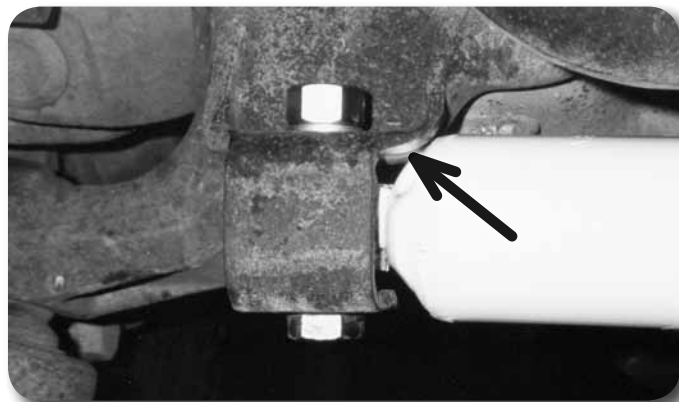

Figure 2
6. Mount the base of the cylinder in the OE bracket at the axle. Check for any contact between the cylinder and the bracket. If there is contact, mark the area and grind the bracket to obtain clearance for the cylinder. **Figure 2** Paint any bare metal.